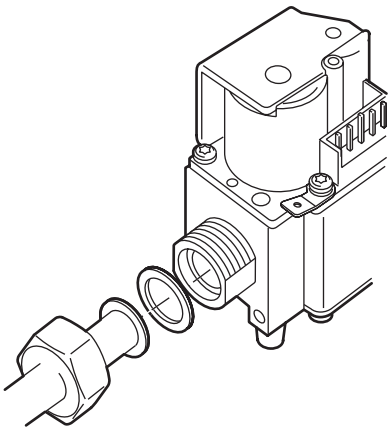

Fig. 4. External thread connection with nut and flat sealing ring
- With 1/2" nut and flat sealing ring for pipe 14 mm (fig. 4)
- With 1/2" nut and flat sealing ring for pipe 15 mm (fig. 4)
- ⑤ With $\frac{3}{4}$ " nut and flat sealing ring for pipe 15 mm (fig. 4 .)
- ⑥ With $\frac{3}{4}$ " nut and flat sealing ring for pipe 18 mm (fig. 4 .)